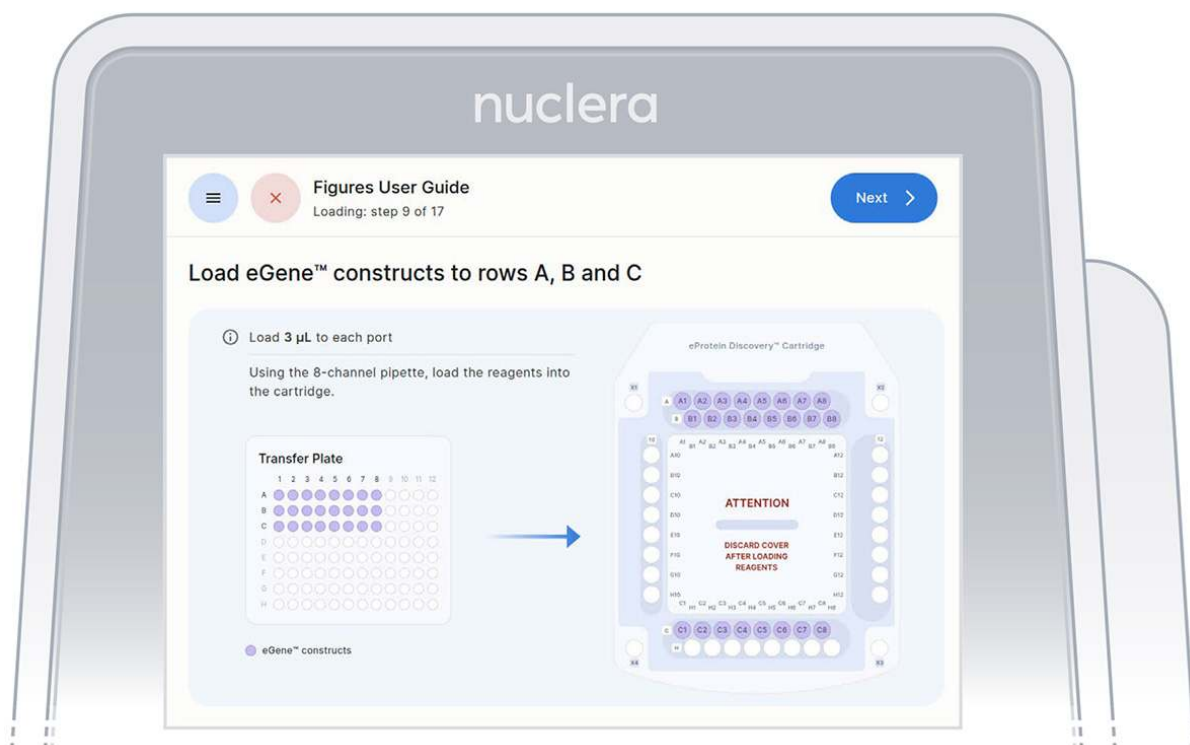

Figure 20: Loading of the eGene constructs onto row A, B and C of the cartridge
- ▷ Load 8x fresh pipette tips and aspirate 3 μ L of the eGene constructs from the transfer plate wells A1-A8 into ports A1-A8 of the cartridge (Figure 20).
- ▷ Load 8x fresh pipette tips and aspirate 3 μ L of the eGene constructs from the transfer plate wells B1-B8 into ports B1-B8 of the cartridge (Figure 20).
- ▷ into ports C1-C8 of the cartridge (Figure 20).